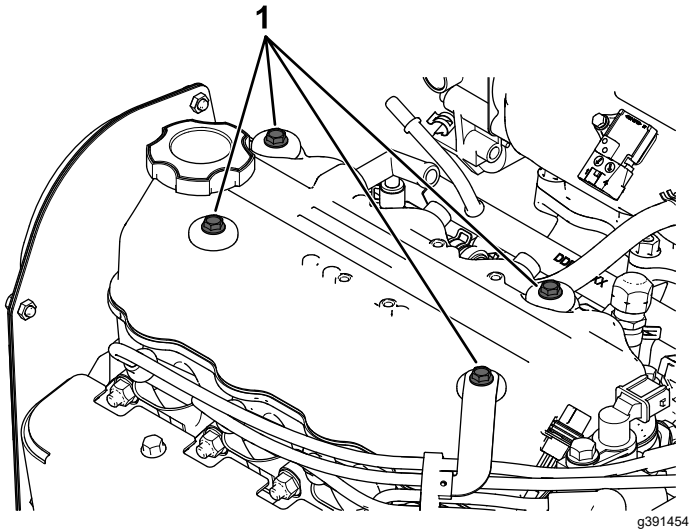

Figure 68
1. Remove the 4 bolts shown in Figure 68 from the engine.